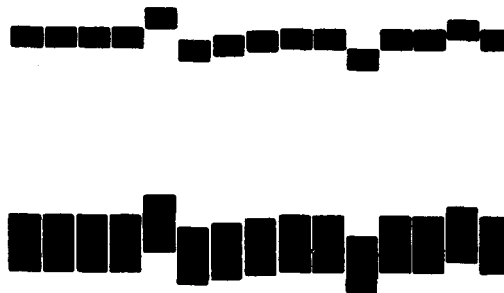

Figure 102. Enlarged examples of jitters.
*b. Jag or Jitters.* These are the terms used to describe irregular or saw-tooth recording of lines that should be straight (fig. 102). The trouble is generally in the motor or the clutch. It can, however, originate in the drum or the lead screw. To determine whether it is in the drum or the lead screw, first replace the motor with one from another machine which is operating satisfactorily, and make a test run. Use a transmission test copy having straight lines running parallel to the axis of the drum. The recording of the straight